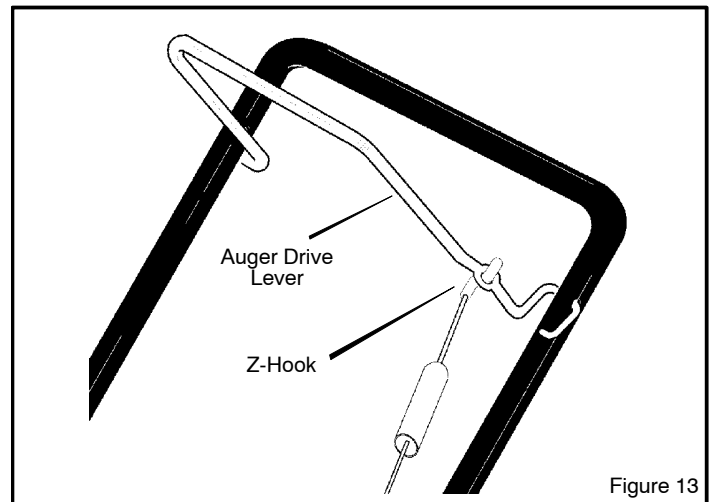

Figure 13
1. Remove the "**Z**" hook from the **auger drive lever** (Figure 13).